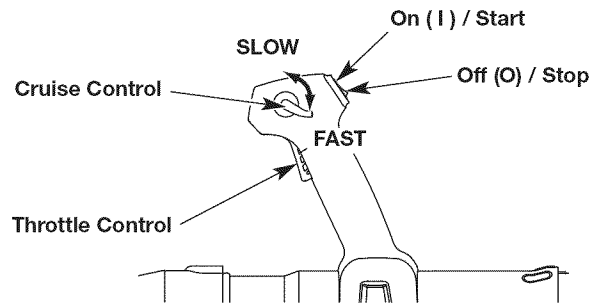

Fig. 10
NOTE: There is no need to turn the unit on. The On/Off switch is in the ON (I) position at all times (Fig. 10).
NOTE: **DO NOT** squeeze the throttle control until step 9 (Fig. 10).
2. Press and hold the On/Off switch in the OFF (O) position until the engine comes to a complete stop (Fig. 10).
NOTE: DO NOT squeeze the throttle control until step 11 (Fig. 10).
- Use the cruise control to make continuous operation easier (Fig. 10).